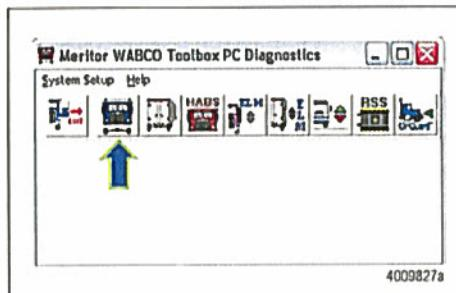

Figure 1
2. Launch the Meritor WABCO TOOLBOX® Diagnostic Software and click on the Pneumatic ABS Icon for Truck, Tractor and Buses. Figure 1.